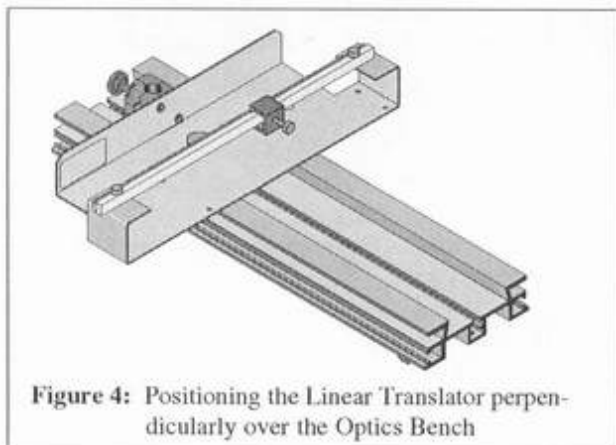

Figure 4: Positioning the Linear Translator perpendicularly over the Optics Bench
1. Place the base of the Linear Translator perpendicularly over the far edge of the Optics Bench (See Figure 4).